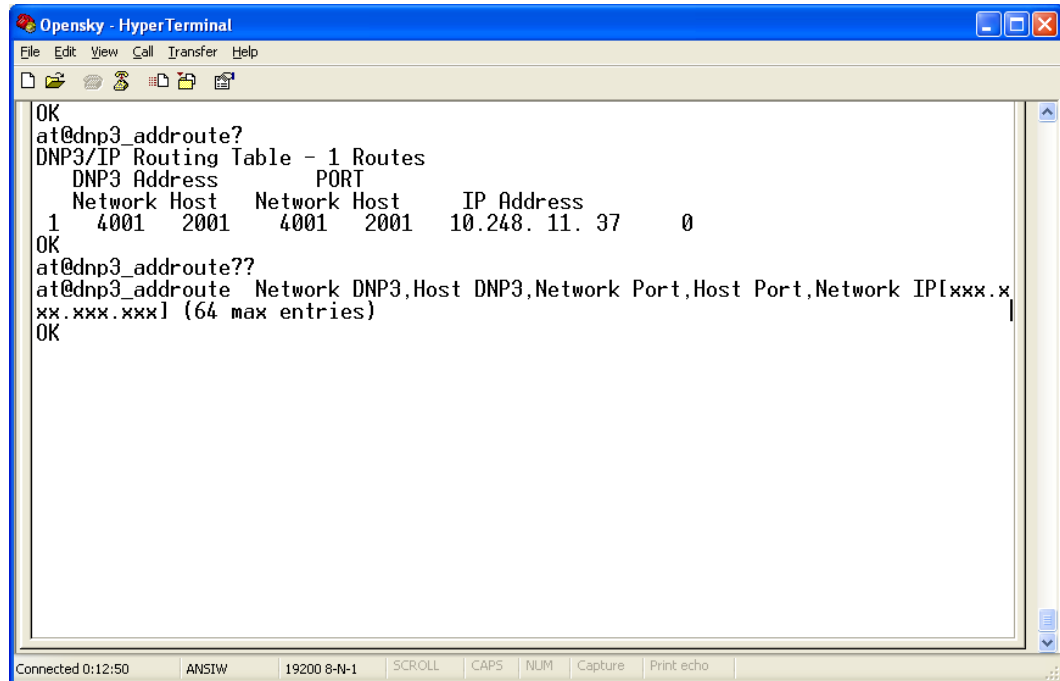

Figure 9-3: Adding a DNP3 Static Routing Table
1. Using a terminal emulator, establish a communication link to the Outstation SG5300, as shown in Figure 9-3: Adding a DNP3 Static Routing Table.